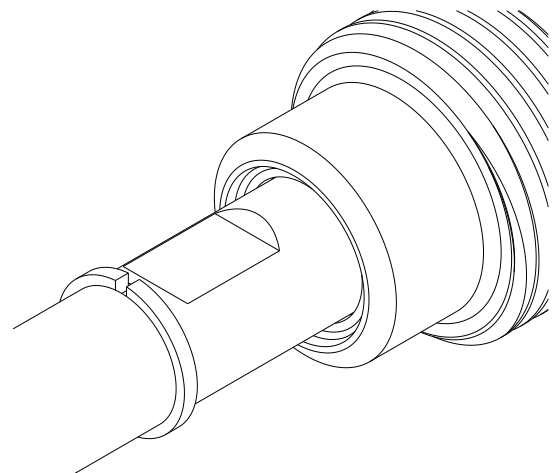

Figure 3
9. Depress the sleeve to expose the flats on the plunger. Refer to Figure 3. Put a 8mm (5/16") spanner on the flats of the plunger. Using the spanner and allen key, tighten the grub screw to secure the sleeve in place.